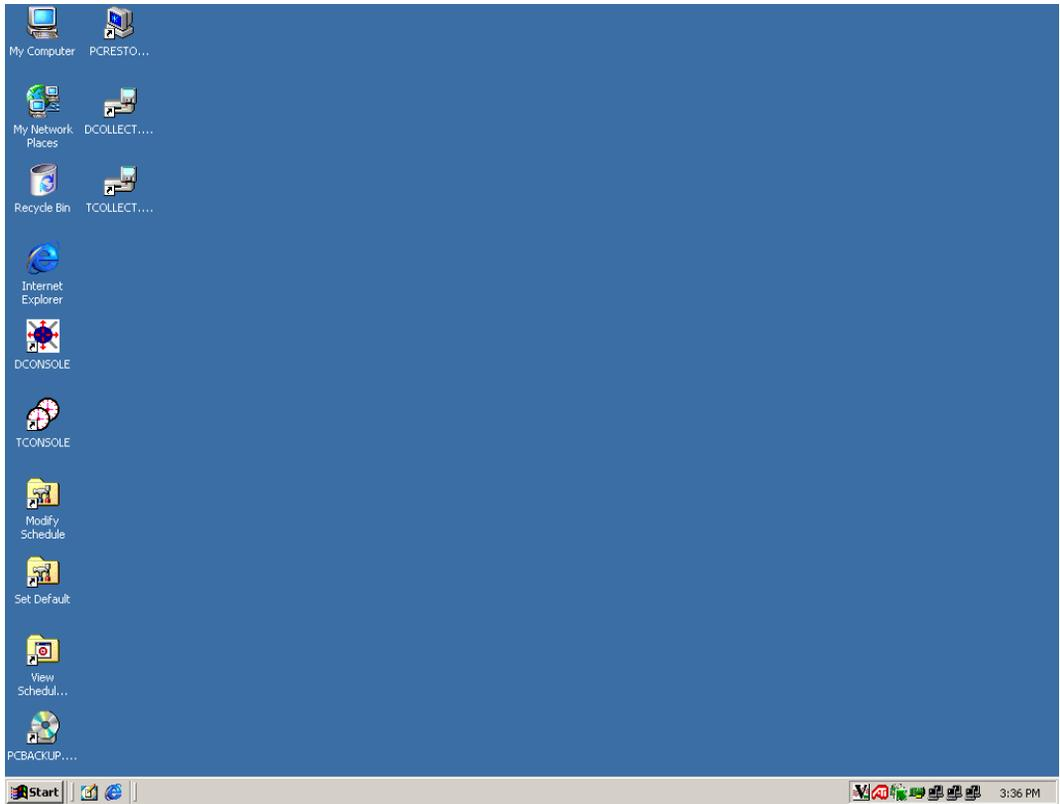

Figure 40 Windows 2000 Desktop (Remote Access)
5. Type the default Windows 2000 user name and password and click **OK**. The server's Windows 2000 desktop opens (Figure 40).